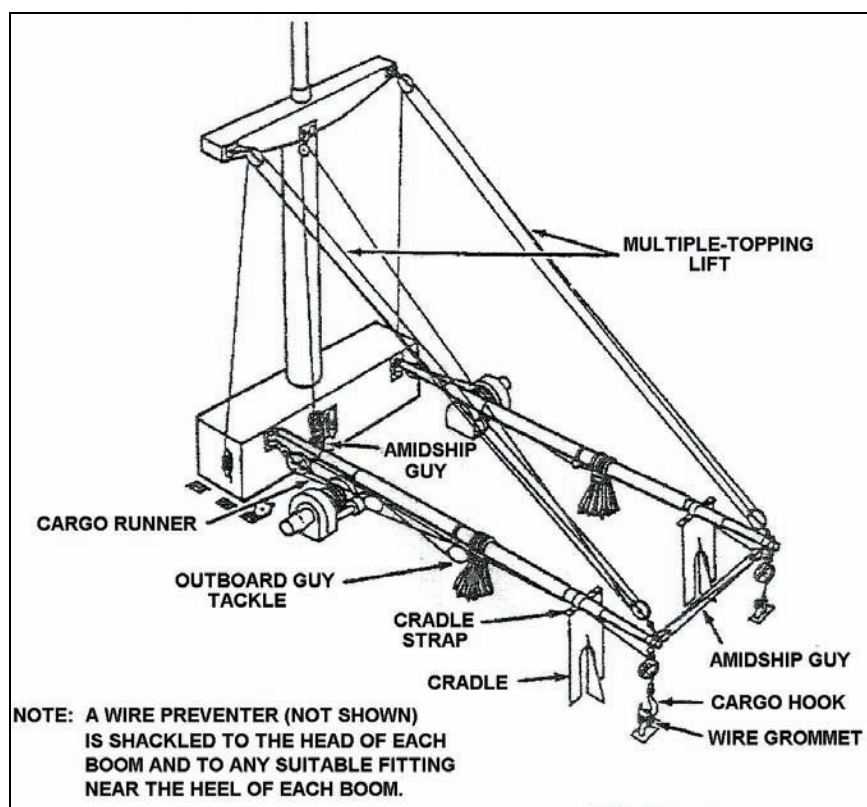

Figure 3-118. Direct Topping Booms Equipped With Multiple Topping Lifts
1. Execute the procedures required to direct topping booms equipped with multiple topping lifts (see Figure 3-118).